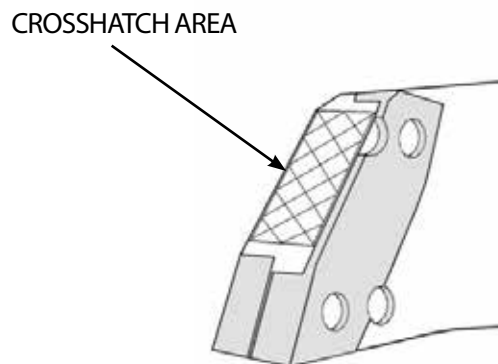

FIGURE 5-20
The area shown in Figure 5-20 must be inspected daily, and maintained whenever the crosshatch pattern is almost worn down to the base metal surface. If you have any questions regarding this information, please call the LaBounty Service Department at (218)-834-6901.
If, as a result of production considerations, the crosshatch pattern has been worn down into the base metal of the shear upper jaw, the Saber Tip can be used as a guide for build-up to proper profile prior to applying new hardsurfacing. If the edge of the Saber Tip has been worn, it will be necessary to remove the tip, rotate to the new front edge, and bolt into place. The surface of the upper shear face should be built up (using E-7018 welding rod, or E-70 series wire-following pre-heat procedures) to conform in profile to the new Saber Tip edge. Depending upon the model, this surface should be flush with the Saber Tip edge to 1/16" above the edge. Once the surface has been built up and ground to profile, the crosshatch hardsurface pattern can be applied. Use 1½" spacing in the crosshatch hardsurface pattern, as shown in Figure 5-20.